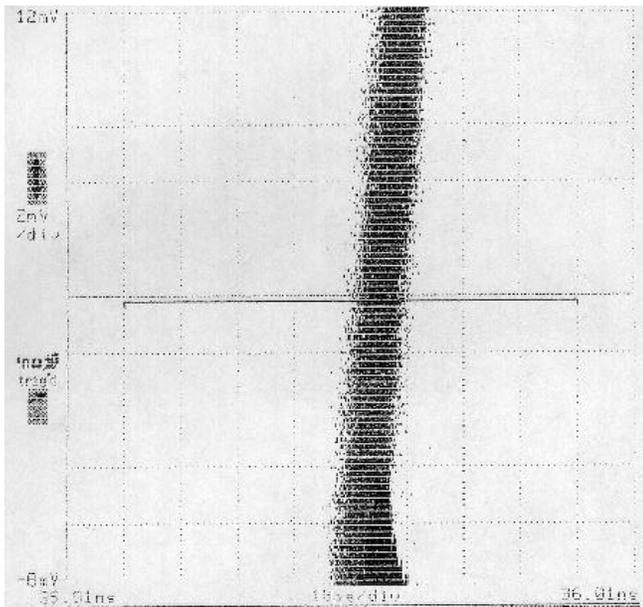

Figure 2
*High Power Supply Noise Immunity* - the OP4012B uses both differential active devices and differential SAW technology to minimize the effects of power supply noise on jitter and phase noise, as shown in Figures 2 and 3. Optical data communications circuits must switch relatively high levels of current, making power supply noise immunity an important clock requirement.